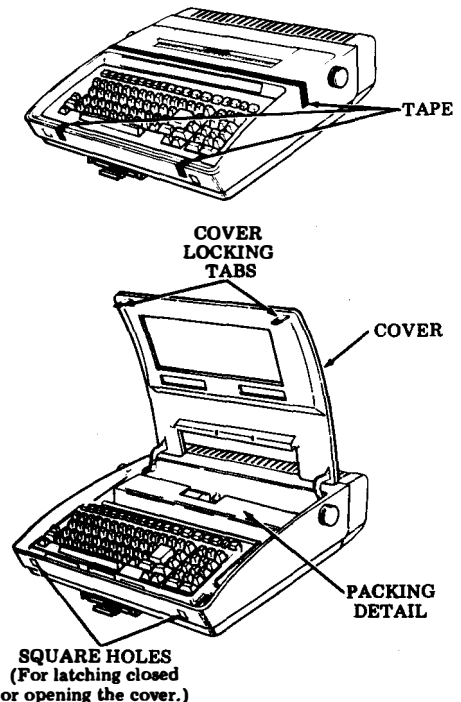

Fig. 15—Packing Detail
- 5.04 Unpack the carton referring to instructions on the container. Remove tape securing the cover and paper separator to the housing (Fig. 15).
- 5.05 Depress the cover locking tabs on the lower front of the cabinet and lift the cover. Remove the packing detail securing the print head and the ribbon in place (Fig. 15).
6.03 Tape the cover to the housing as shown in Fig. 15.